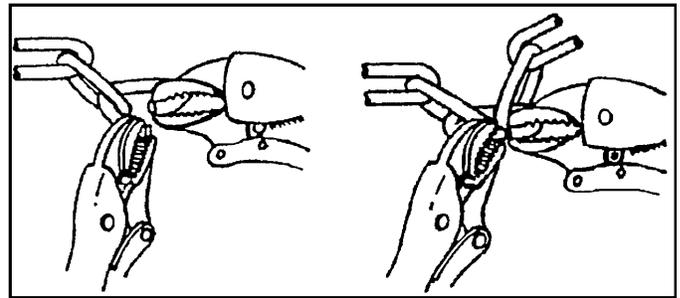

FIG. 2
2. Connect the hand chain ends together as shown in FIG. 2. by twisting open the last link on one end of the chain, and slipping the last link on the opposite end onto the open link.
- NON-HOIST MODELS: Feed release cord through washer and tie off. Route through brake assembly and bracket as shown in FIG. 2. Install emergency release handle to other end.